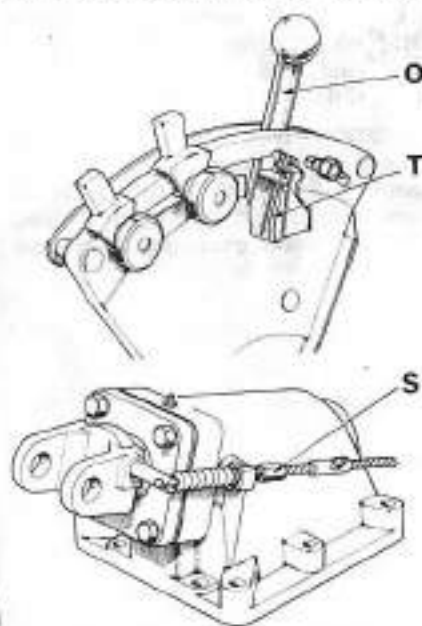

Fig. 283—Adjusting points for top link sensing unit flexible cable; refer to text for procedure.
**264. ADJUST SENSING UNIT CABLE.** On models with double acting sensing unit, adjust cable as follows: With weight on lower links and top link disconnected, place selector dial in "Depth" position. Loosen locknut and turn adjuster (S-Fig. 283) fully inward so that cable is slack. Move control lever (O) rearward until it contacts quadrant spring (T), start engine and allow lift linkage to raise fully and reach hold position, then stop engine. With control lever still touching quadrant spring, slowly turn adjuster out until linkage starts to creep downward, then turn adjuster back in  $9\frac{1}{4}$  turns on 885 models,  $5\frac{1}{4}$  turns for all other